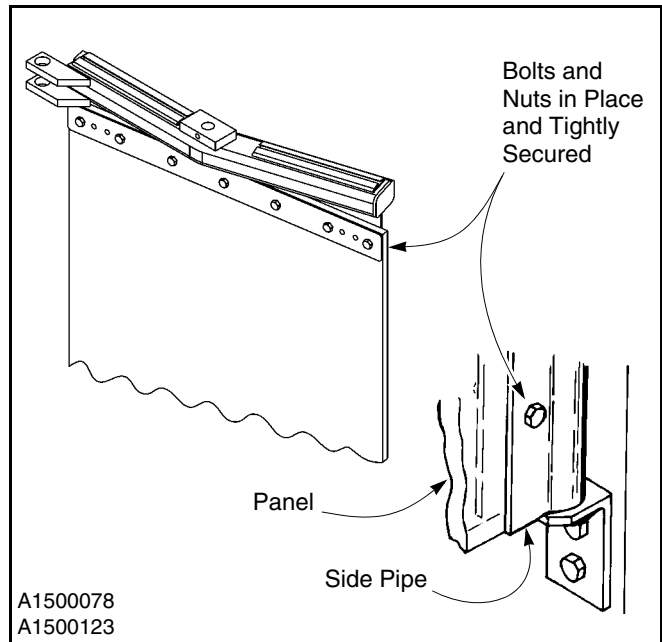

Figure 7
2. Check that all panel mounting hardware is in place and tight. (See Figure 7.)